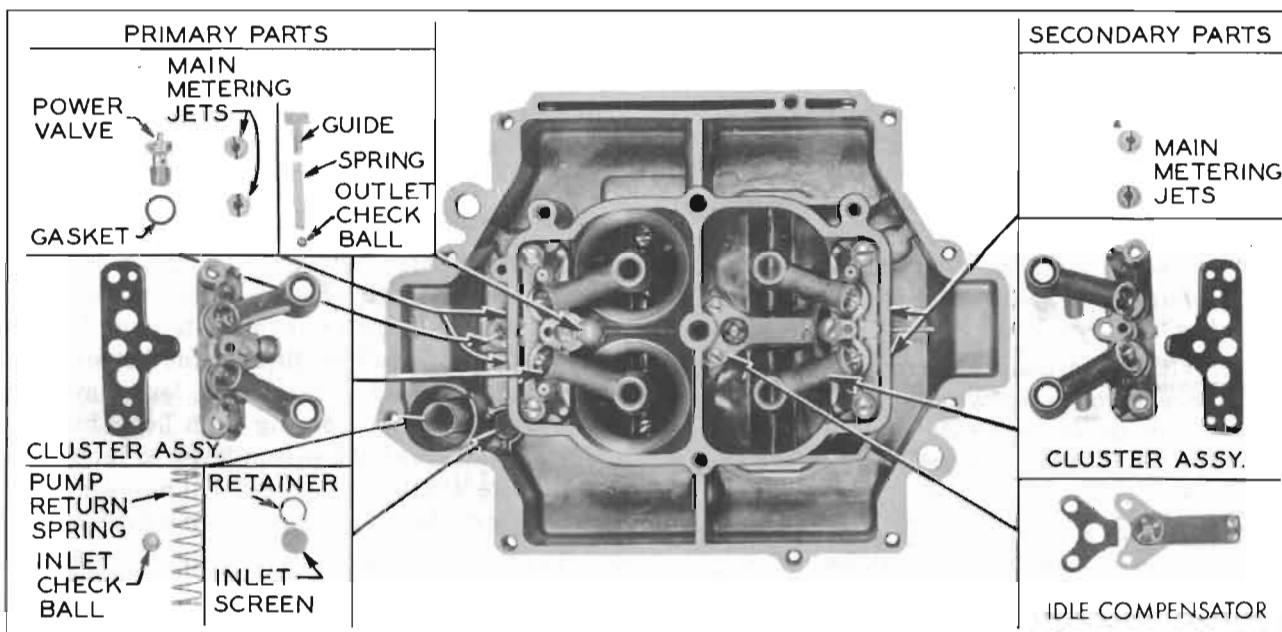

Figure 3-92—Main Body Parts
13. Remove both main metering jets from pump side of main body. See figure 3-92.